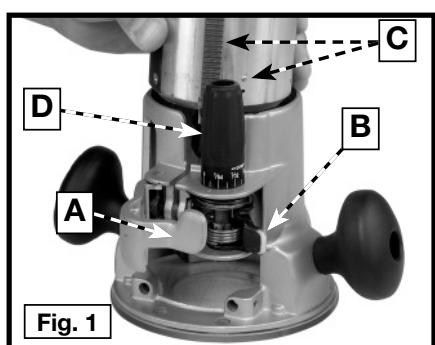

Fig. 1
- (a) Open the clamp (A) Fig. 1.
- (b) Push the lever (B) Fig. 1 toward the power unit.
1. Open the clamp (A) Fig. 1 and set the power unit in the base unit.
2. Align the rack and pin (C) Fig. 1 of the power unit with the grooves in the base. Pull the lever (B) Fig. 1, and lower the motor into the base.
3. Close the clamp (A).